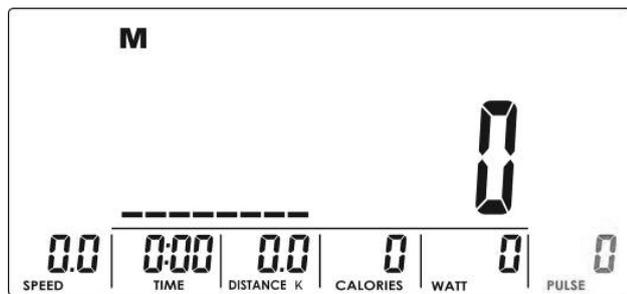
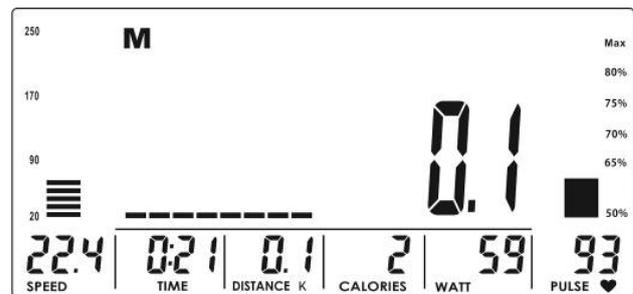
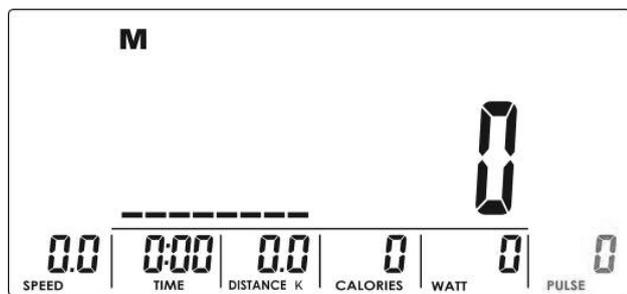

Figure 23
Figure 24
Figure 25
(4) The LCD screen displays the BMI (fig. 23), the fat percentage (FAT %, fig. 24), and the body fat symbol (BODY FAT, fig. 25).
(5) Error message: